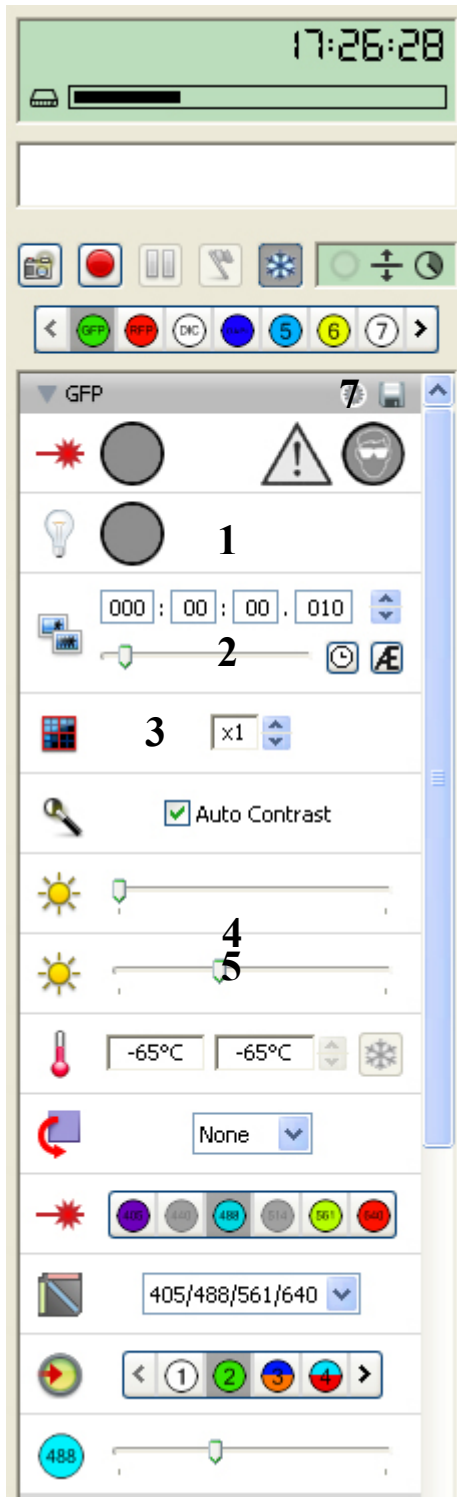

Figure 1.
There are **pre-set channels** for (Fig. 1):
DIC: Brightfield light is controlled in Volocity, DIC channel has to be chosen and bulb icon (1 in Fig. 1) clicked (there is no good DIC on this system because the addition of the required analyser would in the current set-up remove half the fluorescence signal)
For each channel choose exposure time (2 in Fig. 1), binning (3, has to be the same for all channels), gain (4) OR sensitivity (5) (see below under Hamamatsu C9100-13) and laser power (6). Save each channel before moving to the next one (7, disk icon next to channel tab).